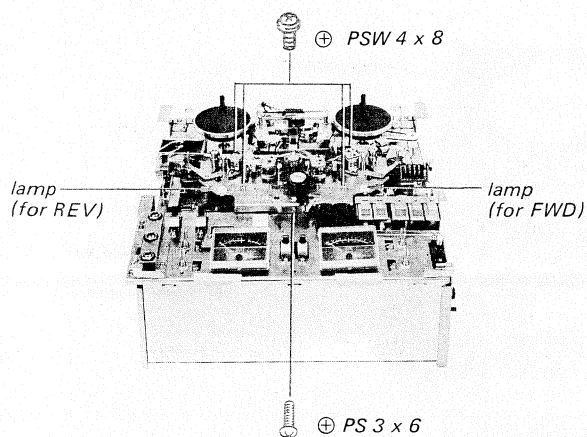

Fig. 2-2. Head deck removal
2. Remove the five screws shown in Fig. 2-2. Lift off the head deck.